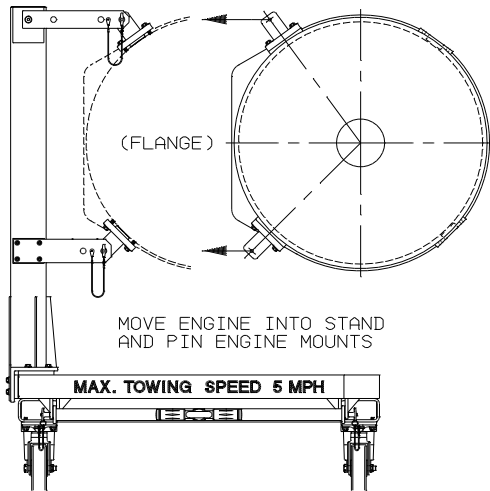

FIGURE 3
5. Carefully move engine into stand and pin engine mounts to the arms on the main support assembly. See Figure 3.